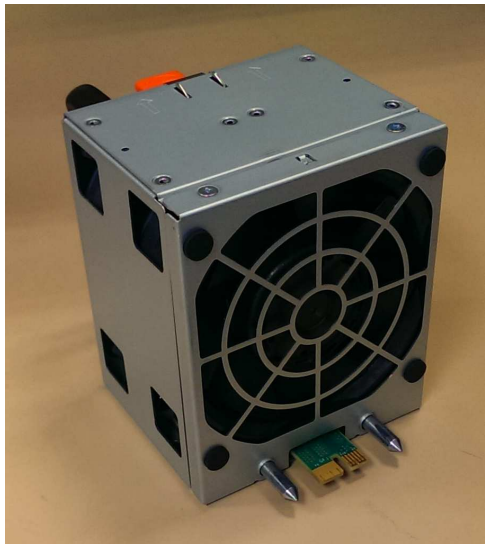

Figure 132. Fan module orientation
1. Hold the fan module with the release tab on top and the connector pin on the bottom, as shown in Figure 132.